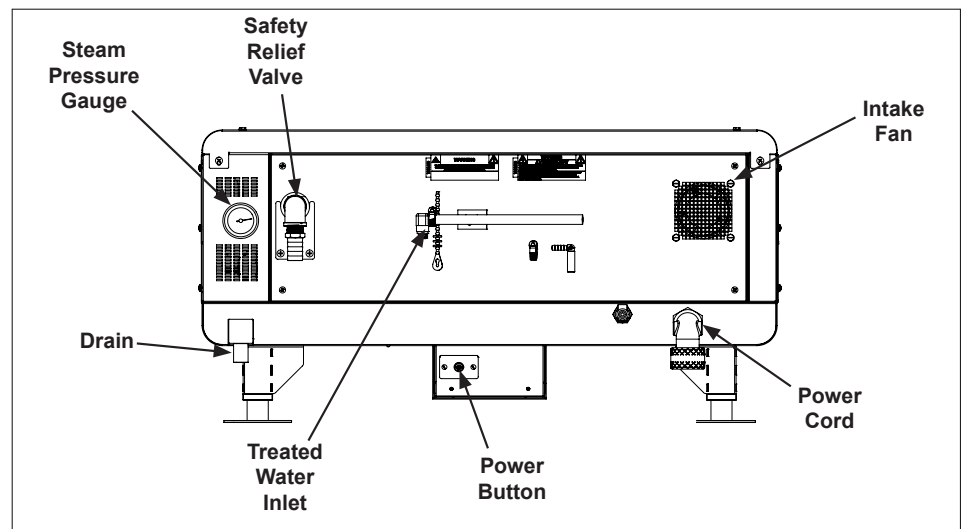

Figure 3. Steamer Connections and Items (Rear of Steamer)
1. Connect the cold water line to the water inlet according to Figure 3 on page 6.